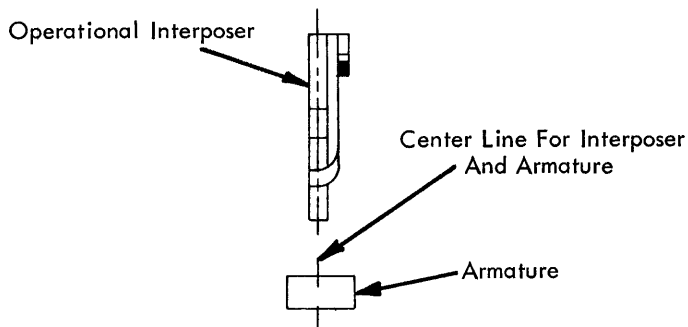

FIGURE 173.3 Left To Right
a. Left to Right - so that the armatures are directly beneath their corresponding interposers (Fig. 173.3).